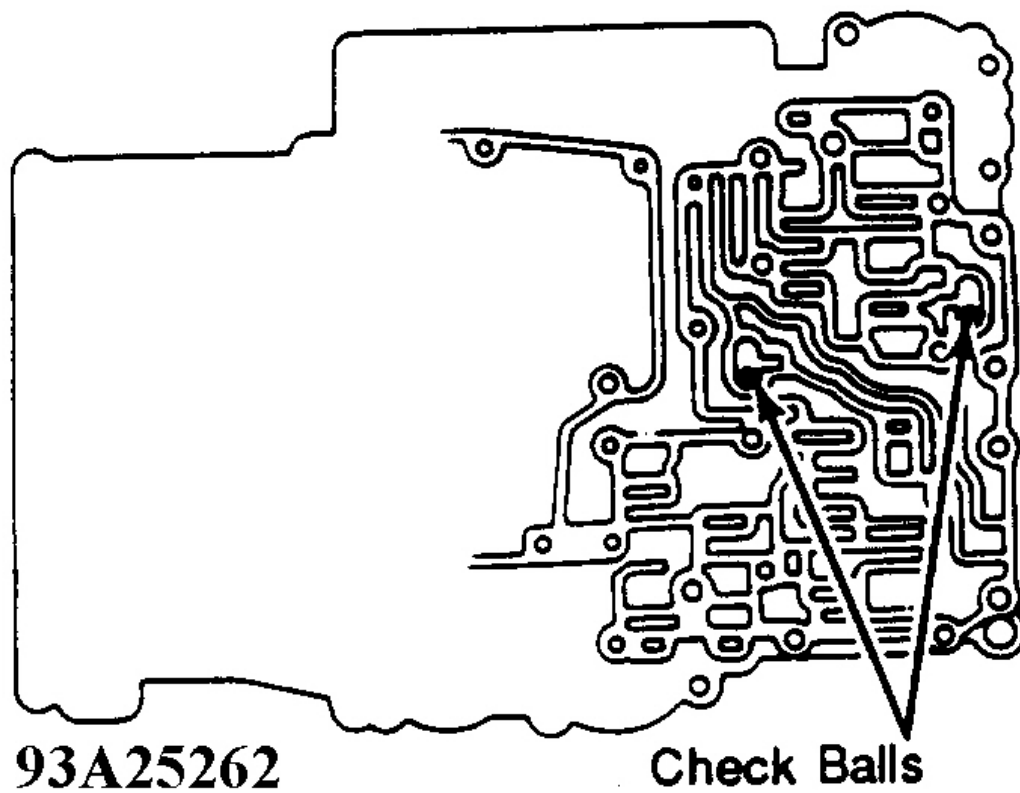

Fig. 50: Locating Valve Body Check Balls
5. Turn valve body over. Install 2 check balls into lower valve. See **Fig. 50** .